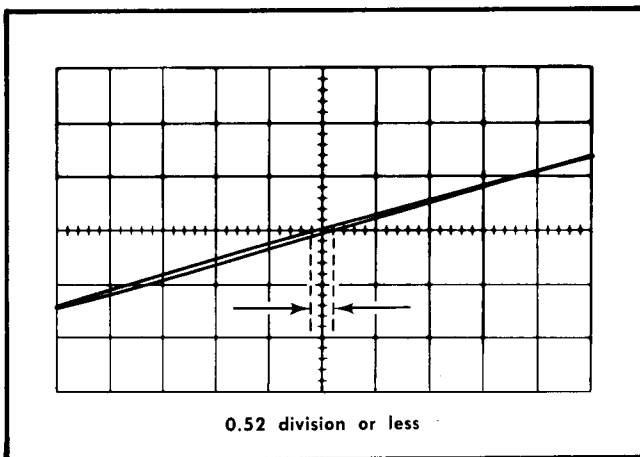

Fig. 5-27. Typical CRT display when checking X-Y phasing.
e. CHECK—CRT display for an opening at the center horizontal line of 0.52 division or less (3° or less phase shift; see Fig. 5-27).
h. CHECK—CRT display for an opening at the center horizontal line of 0.52 division or less (3° or less phase shift; see Fig. 5-27).
k. CHECK—CRT display for maximum opening at the center horizontal line of 0.52 division or less (3° or less phase shift; see Fig. 5-27).